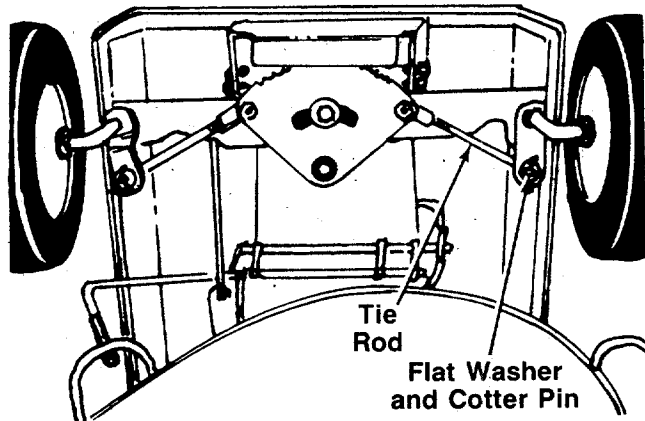

FIGURE 26.
The caster (forward slant of the king pin) and the camber (tilt of the wheels out at the top) require no adjustment. Automotive steering principles have been used to determine the caster and camber on the mower. The front wheels should toe-in 1/8 inch. See figure 26. To adjust, follow these steps:
1. Remove the cotter pin and flat washer which hold the tie rod to the axle bracket. See figure 26.